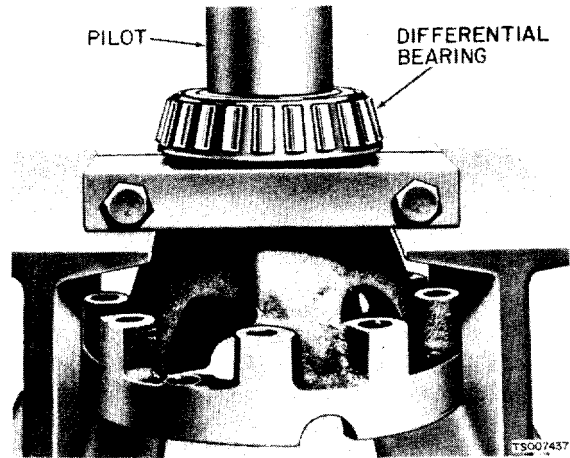

Figure 10-9. Differential Bearing Removal.
(4) Remove differential pinion, with bearings assembled, from differential housing. If bearings are to be removed, press the bearings off in an arbor press.
(5) Drive side gear pin out of differential case, and remove differential pinions side gears and thrust washers.
(6) Do not remove ring gear from case unless ring gear is damaged.
(7) Differential bearings may be pressed off the case using an arbor press (fig. 10-9).